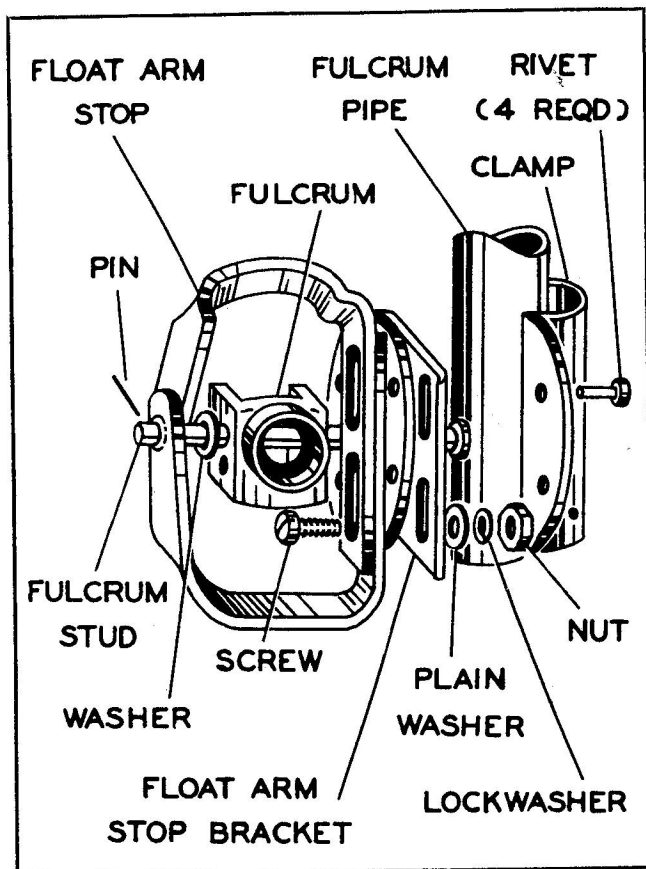

Figure 2-6. Assembling Fulcrum and Float Arm Stop in Tank Units of Outside Operating Rod Type
- Assemble float fork (59) and float arm (49) to fulcrum (42).
- To attach upper end of operating rod or operating rod assembly (28 thru 31) to operating arm (22), position two washers (26) on each side of operating rod assembly, position rod in fork of operating arm (22), insert rod pin (25) and stake.
- Place lower end of operating rod assembly in fork in fulcrum (42) and secure by inserting and staking rod link pin (27).
- Slide float arm stop bracket (37) over fulcrum stud (45) and rivet clamp (38) to bracket.
- To assemble fulcrum and float arm stop (see figure 2-6), slide fulcrum into float arm stop, position washer at outside of fulcrum, and slip these parts over fulcrum stud. Lock with pin.